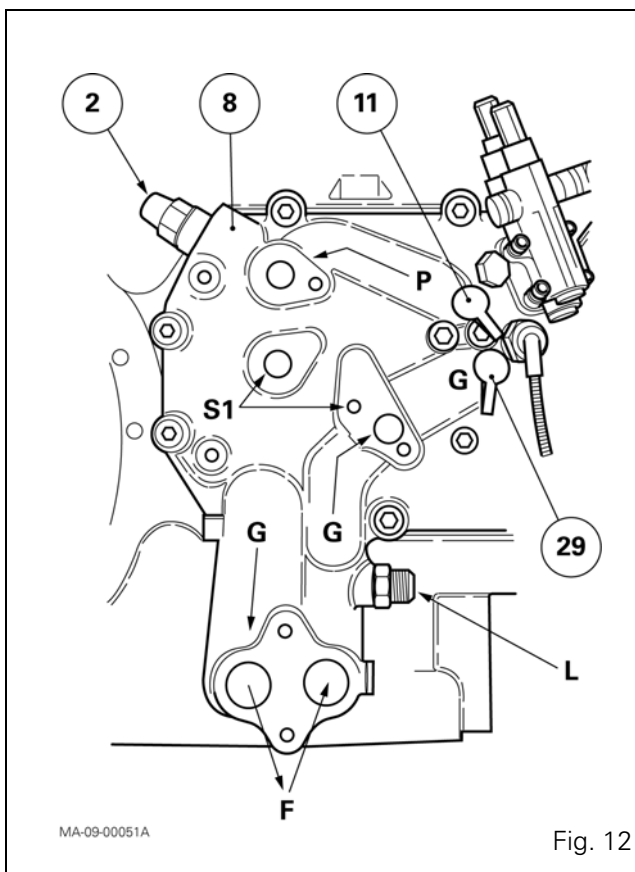
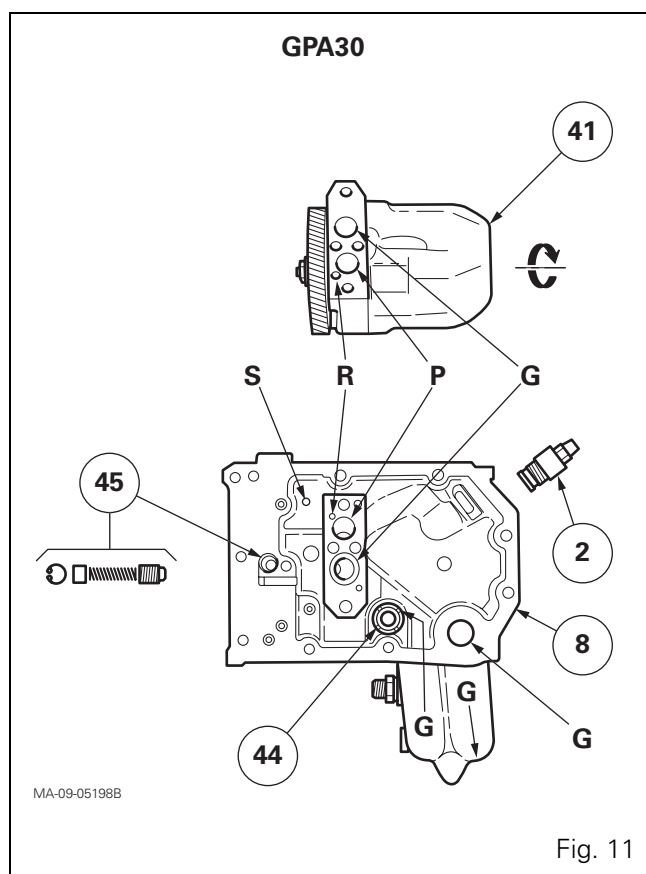
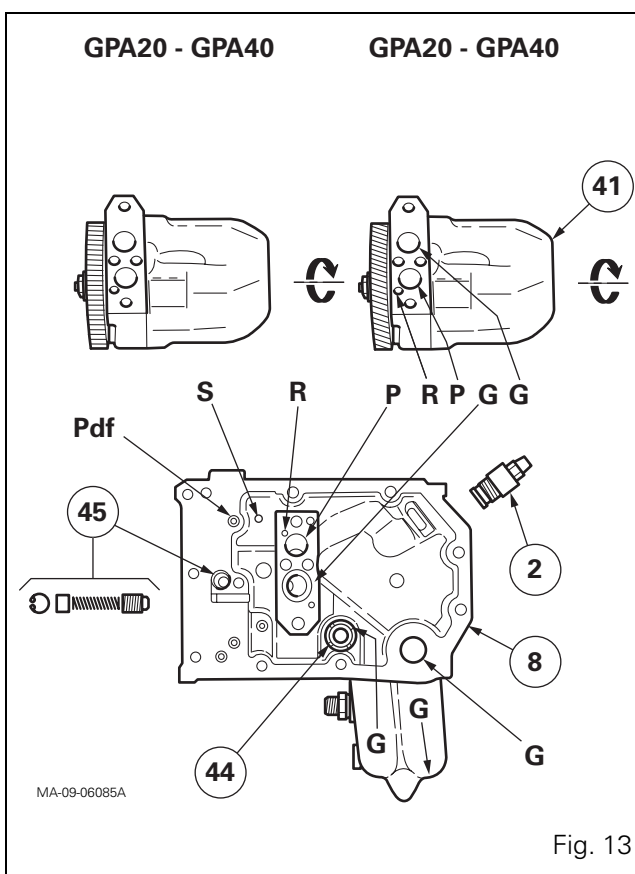

Fig. 12
Fig. 11
Fig. 13
... on the hydraulic cover plate (8) and the variable displacement pump (41) (Fig. 11, Fig. 12, Fig. 13)
- P High pressure (HP) outlet from variable displacement pump
- (2) 230 bar high-pressure (HP) relief valve